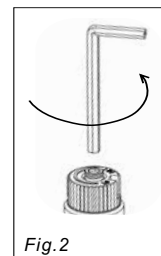

Fig. 2
13. Insert a 5/32" or 4mm Allen wrench into the hexagonal keyway of the screw (Fig. 2); rotate it counter-clockwise until it is free and extract it.